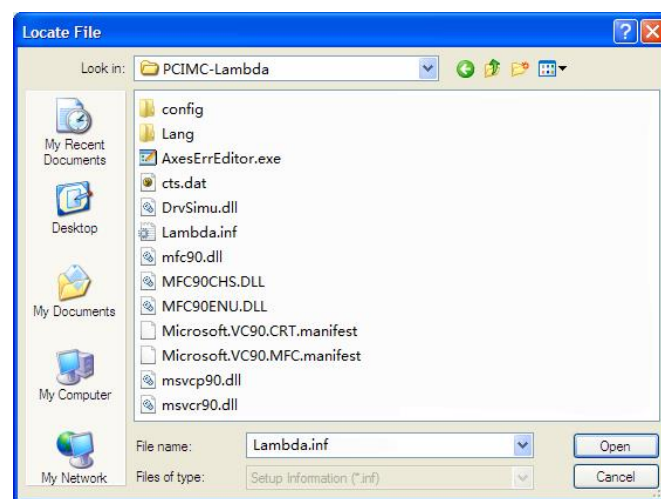

Fig. 2-11 Select the hardware drive
- 5) Click [Browse] button in the pop-up dialog titled “Install From Disk”. In the pop up dialog box, select the target hardware drive in the list, Choose the target file “Lambda.inf” under directory “C:\Program Files\Naiky\PCIMC-Lambda”, see Fig. 2-11.